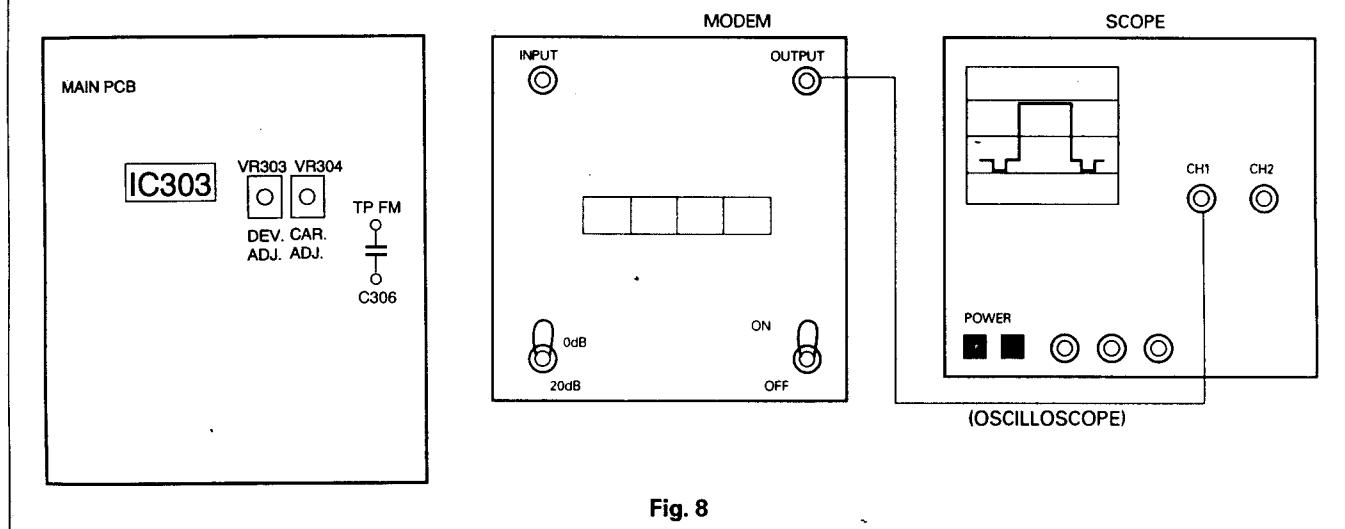

Fig. 8
- a. Connect by referring to Fig 8. (But, the set and Modem Test must be connected by a 1:1 probe.)
a. Connect by referring to figure 8.